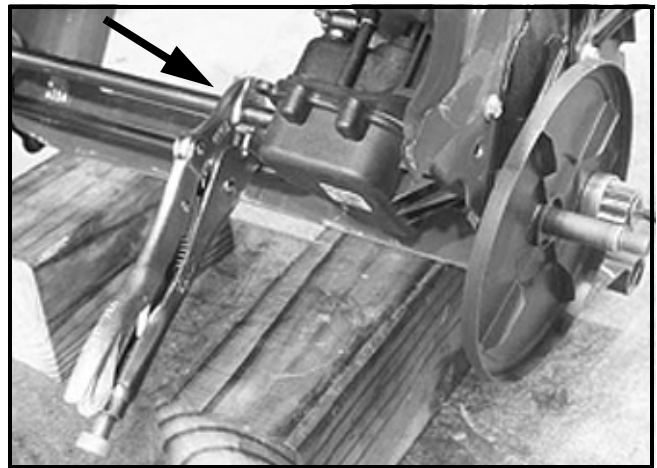

FIGURE 5
13. Using a pair of vise grip pliers, securely clamp onto the transmission's drive axle as shown in Figure 5.